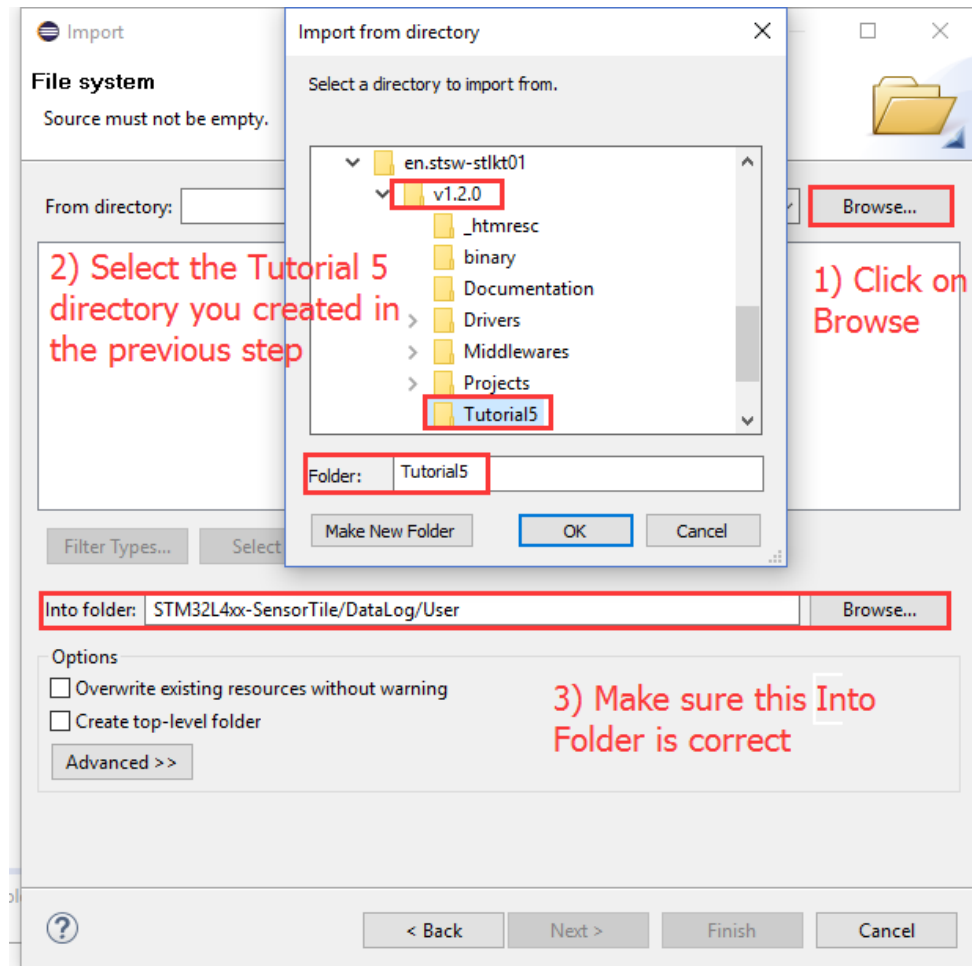

Figure 5: Selecting the directory containing the source code.
7. In the next pop-up window, click on the top “Browse” button to select the “Tutorial5” folde, as shown in Figure 5. Make sure that the “Into folder” is correct, as shown in step 3 of Figure 5.